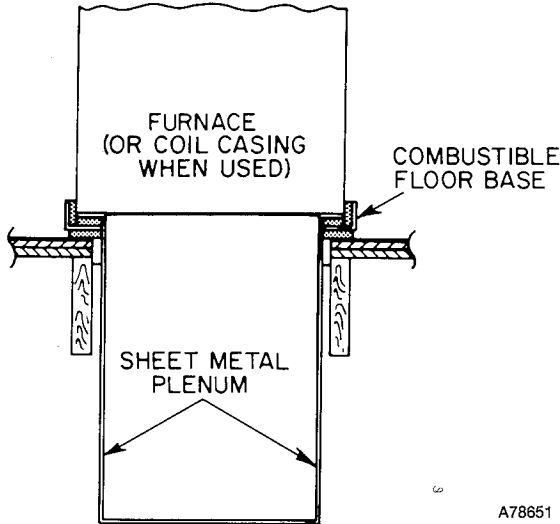

Fig. 7—Furnace, Plenum, and Base Installed on a Combustible Floor
4. When completed, combustible floor base, plenum, and furnace (or coil casing when used) should be installed as shown in Fig. 7.